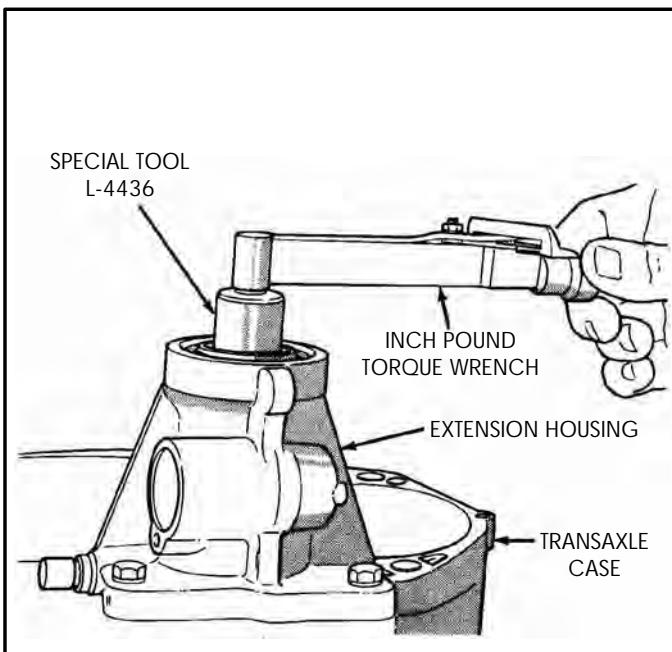

Figure 161
16. Install special tool L-4436, and using an inch pound torque wrench, as shown in Figure 161, verify that turning torque is between 5 and 18 inch pounds.